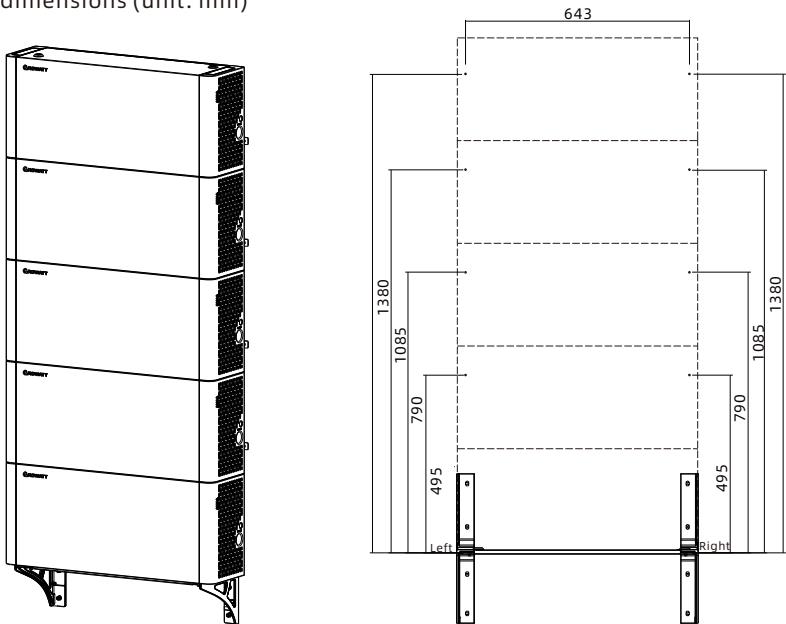

Figure 4.11: Mounting Hole Dimensions
Step 4: Determine the positions of the mounting holes on both sides of the top battery according to the dimensions shown in Figure 4.11. Mark the hole positions with a marker and drill holes (hole depth: 55mm) using a 10mm diameter alloy drill bit. Install two M6 expansion bolts.